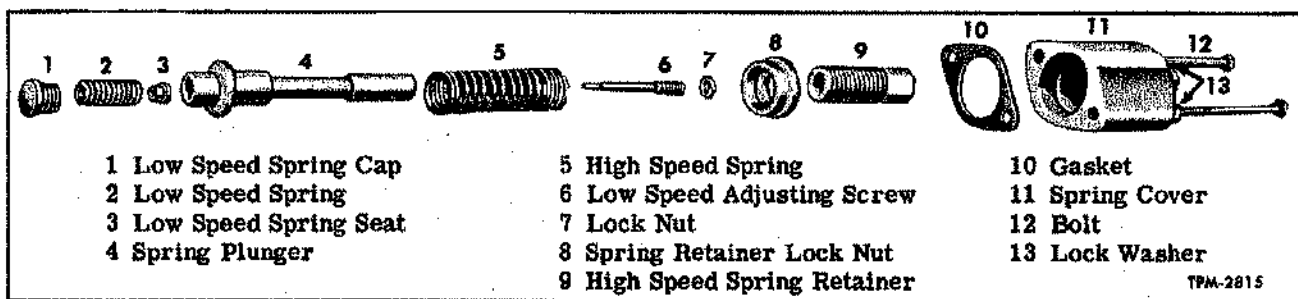

Figure 53—Relative Location of High and Low Speed Springs, Plunger and Seats
3. Loosen high speed spring retainer lock nut, then thread high speed spring retainer out of control housing. This will permit removal of low speed spring cap, spring, seat, adjusting screw, lock nut, and retainer. Refer to figure 53.